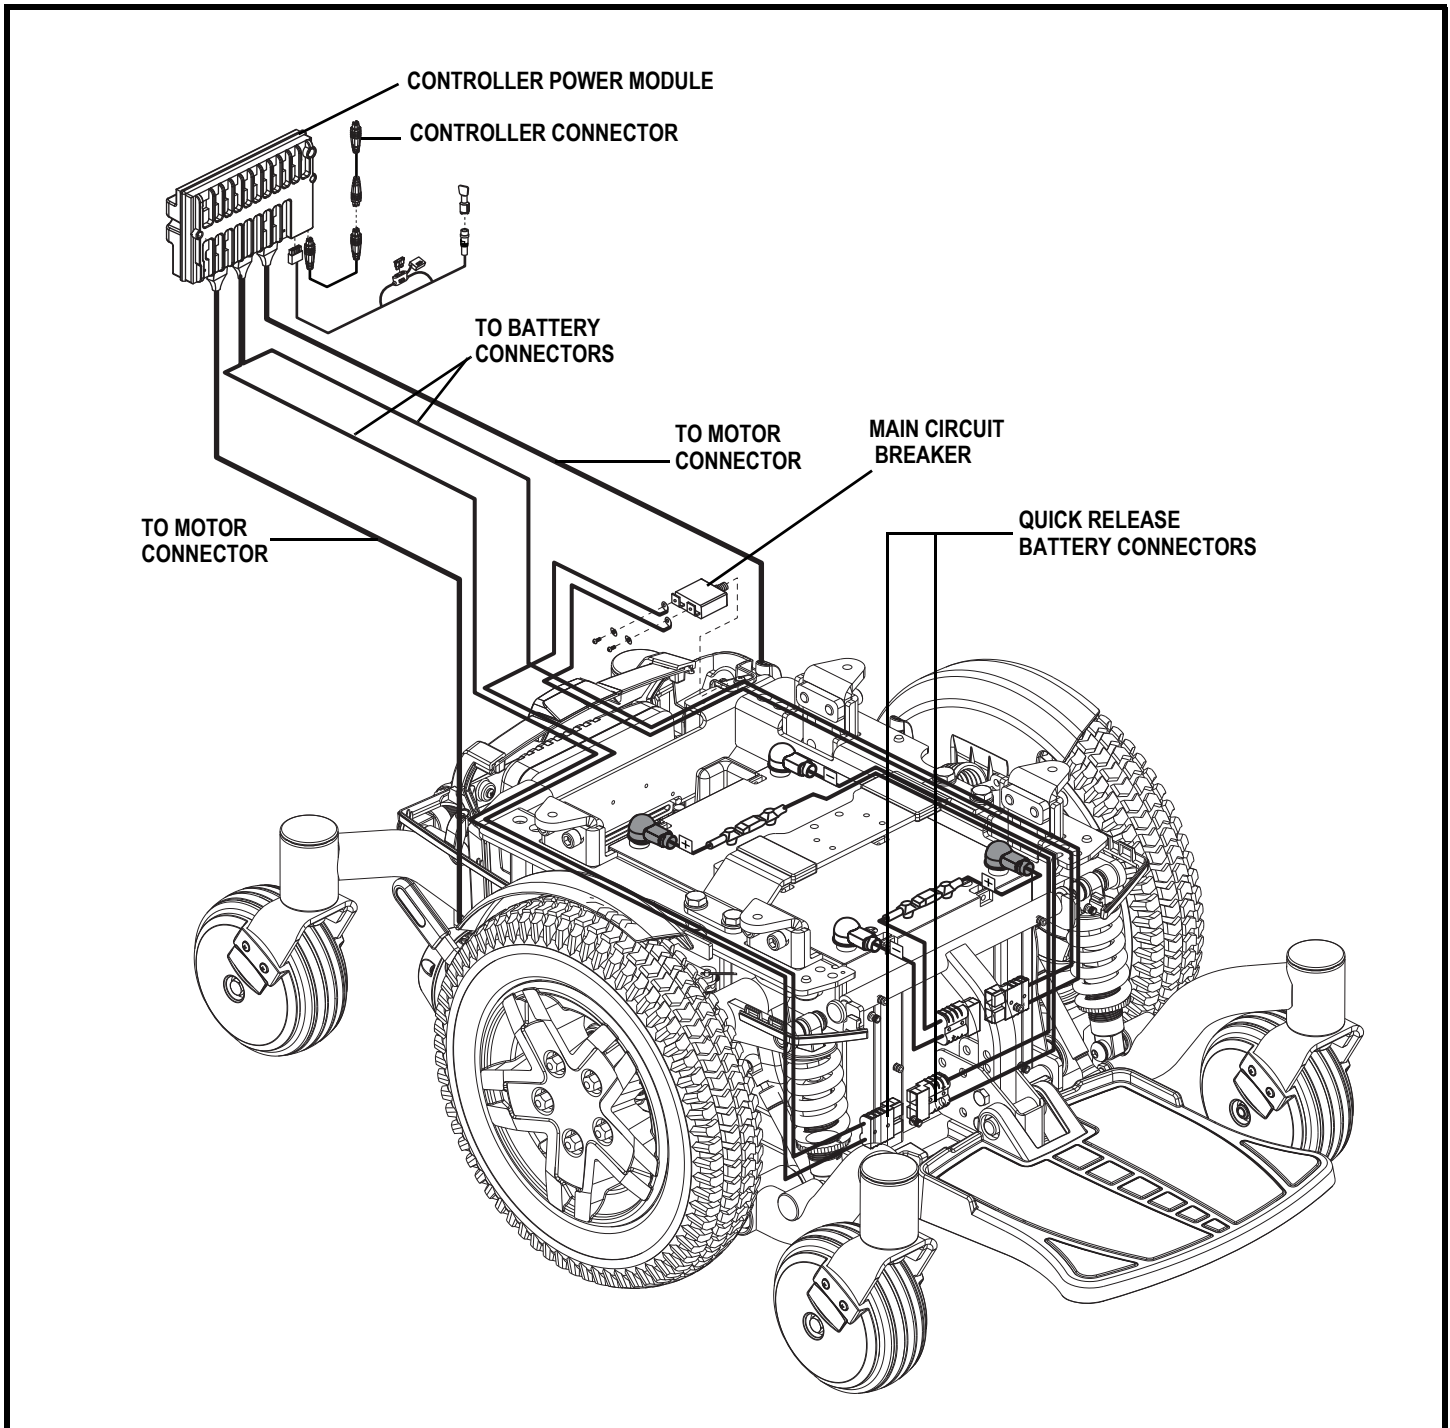

Figure 7. Q6 Edge Electrical Components
The electrical components consist of the controller assembly, the batteries, and the motors. The batteries, motors, and controller power module (if equipped) are located on the power base assembly. The controller is located on the seat assembly. Connectivity between the controller and the motors, batteries and the battery charger is provided by one or more wiring harnesses. **See figure 7.**
5. Plug the controller connector into the rear of the power base. See figure 7.
3. Unplug the controller connector(s) from the power base. See figure 7.